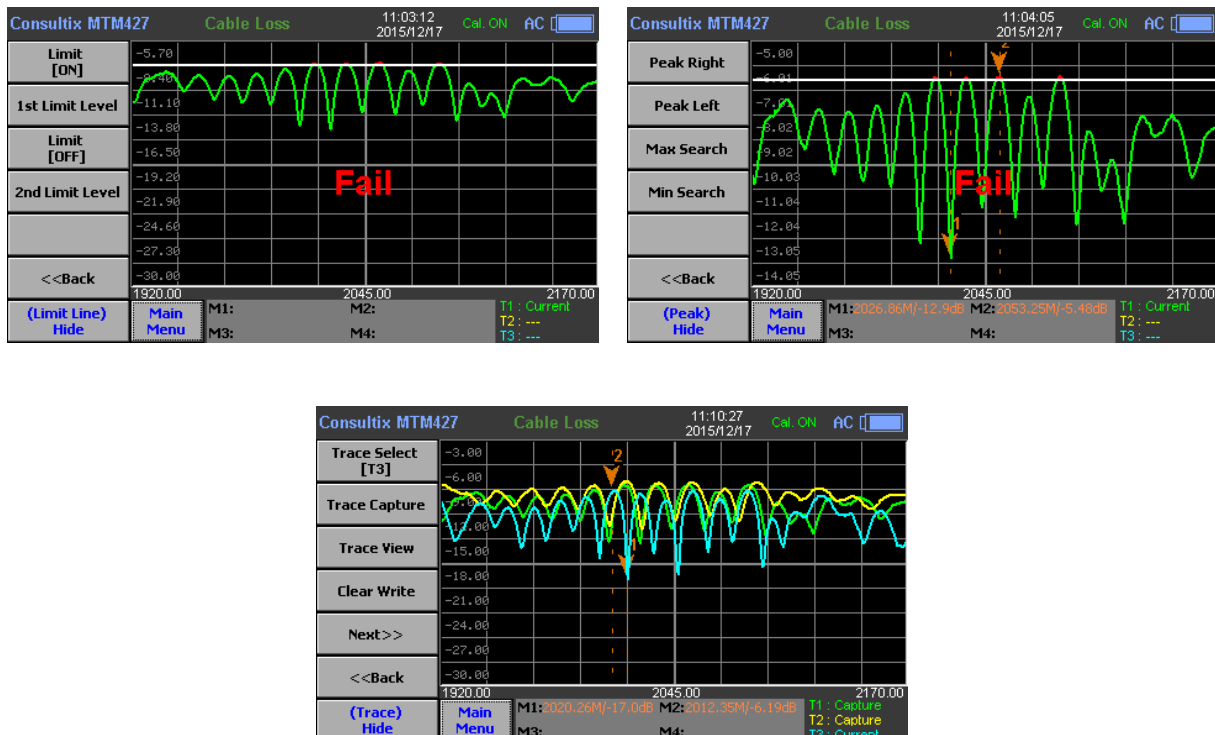

Figure 48: Cable Loss measurement acceptance
3. Add markers, define limit lines, and capture many traces of your measurements to accept or decline your site as shown in **figure 48**